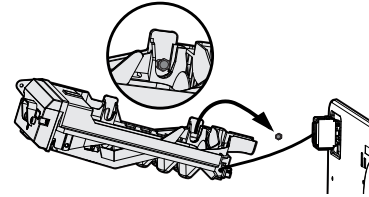
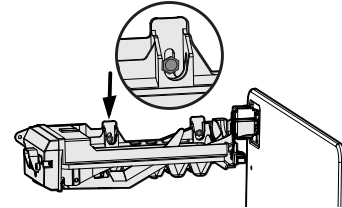

Figure 9A
Figure 9B
10. Slide the ice maker onto the back screw. See Figure 9A. Then slide the ice maker down onto the front screw. See Figure 9B.